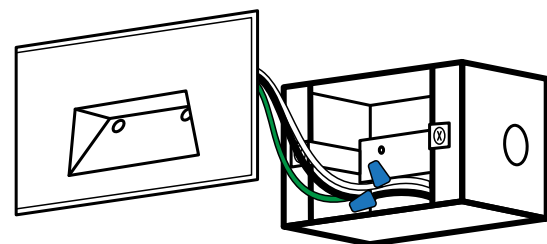

Figure 3
4. Connect fixture wires to junction box wires. Black to Black (line), White to White (neutral) and Green to Ground. Place all wiring and connectors back into junction box with room to install fixture. See figure 3.